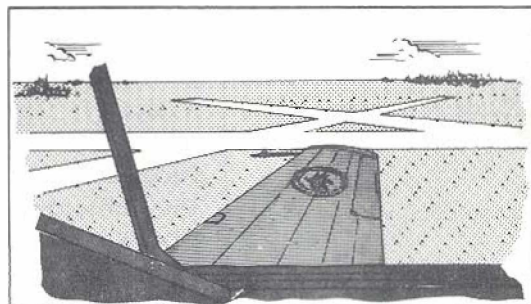

Figure 3: Wing Tip Distance
(1) The down-wind leg is a course flown parallel to the landing runway, but opposite to the intended landing direction. Normally, its distance from the runway is determined by flying the aircraft so that the inside wing tip follows a line coincident with the edge of the runway. As you should know from previous study, this is known as "Wing-Tip Distance". (Figure 3) The turn from the cross-wind leg onto the down-wind leg should be a 30 degree banked turn, and any drift which is encountered should be eliminated so that the ground track remains parallel to the landing runway.